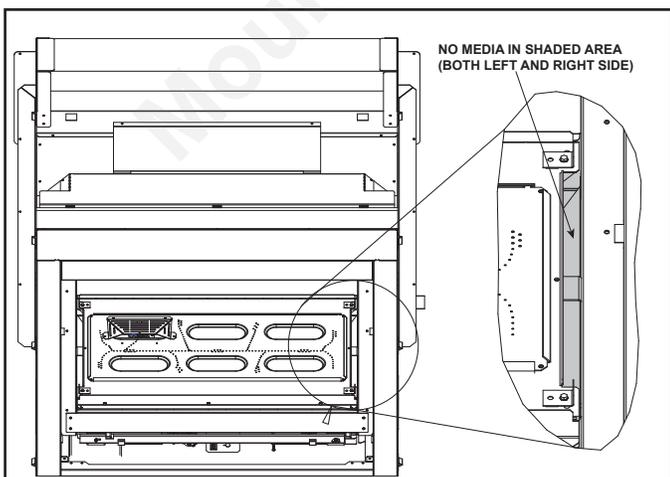

Figure 9.4 No Glass Rock Media in Gap
1. Place glass rock media evenly on base pan and over top of burner. Do not block the open area by the glass refractory. This area must remain open for proper air flow. See Figure 9.4.
NOTICE: Care should be taken to avoid placing glass rock media between the left and right of the media tray and the firebox. Blocking this gap may cause an undesirable flame appearance. See Figure 9.4.